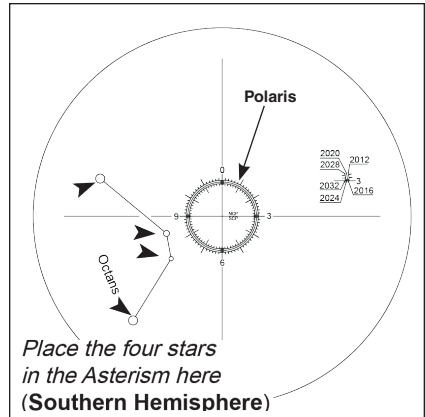

Figure 3. The reticle pattern of the polar scope
Once the polar scope is illuminated, when you look into the polar scope you should see the reticle pattern shown in **Figure 3**. If the image appears blurry, rotate the knurled ring of the polar scope's eyepiece to focus.
Polaris is not located exactly at the North Celestial Pole; it is offset from it by less than 1 degree. The "Polaris circle" seen in **Figure 3** is a representation of Polaris' orbit around the NCP. When polar aligning the Sirius Pro mount, you'll need to determine where Polaris should be positioned on that circle, relative to the NCP, for the current time and date. You can use either of the following two methods to get the orientation:
2. At the end of the initialization of the SynScan hand control, after entering the proper local longitude, latitude, date, time, and Daylight Saving time, the SynScan hand controller will display the message: "Polaris Position in P.Scope=HH:MM". Imagine the graduated circle in **Figure 3** as a clock's face with 12:00 at the top, with the current time pointing to the "HH:MM". The orientation of the hour hand of the clock represents the orientation of Polaris in the polar scope. Put Polaris in the same orientation on the graduated circle to finish the polar alignment.